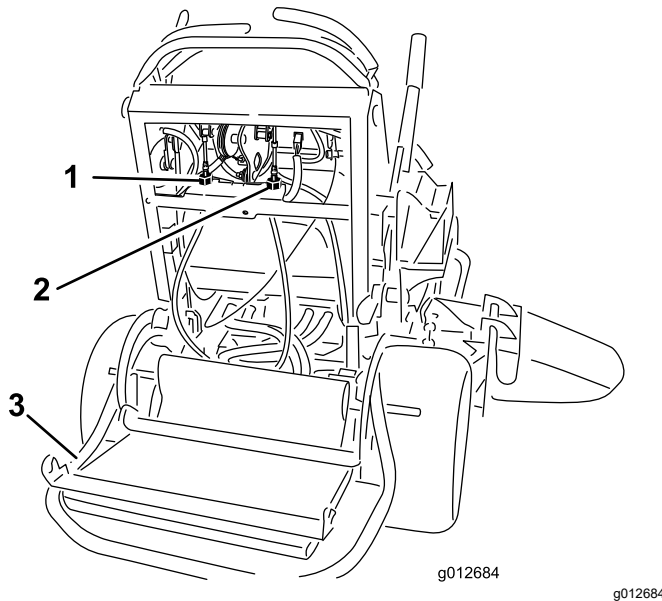

Figure 67
6. Install the cable lock onto the cable-adjusting nuts to secure the adjustment (Figure 67).